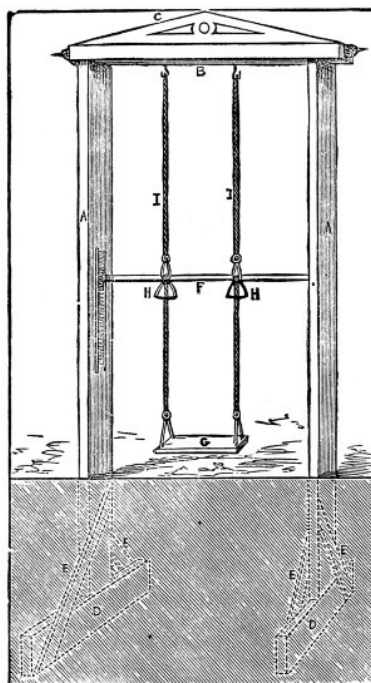

Fig. 3
LAWN GYMNASIUM (Fig. 3)
**Fig. 3** represents the Lawn Gymnasium with some of its appendages. My object now is to show you how to construct the frame, and, of course, when that is done you can add whatever you like, as, for instance, climbing-rope or pole, hand-rings (H H), trapeze bar, foot or sitting swing (G), vaulting and horizontal bar (F), etc.